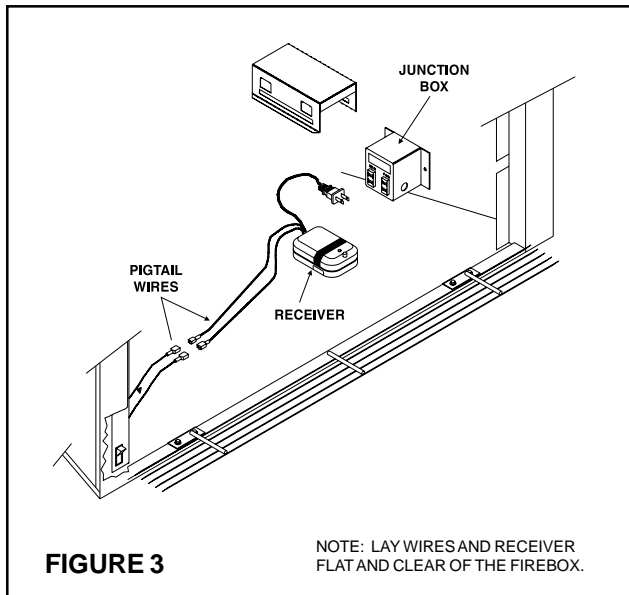

FIGURE 3
1. Place the receiver into the base pan of the fireplace near the junction box. The receiver **MUST** be on the right front side of the base pan of the fireplace, directly behind the bottom louvers. (See Figure 3)
- Plug the 24-inch black cord (2-prong male plug end) of the remote receiver into the female receptacle (marked "REMOTE") on the face of the junction box. (See Figure 3). The receiver will rest on the base pan of the fireplace.